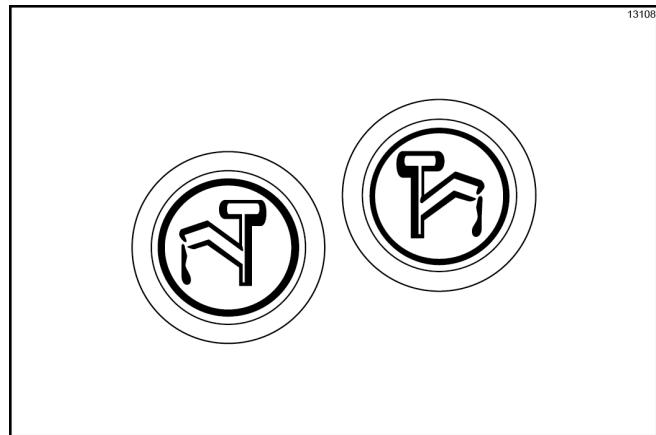

Figure-63
1. Place the topping heaters in the OFF position by pressing the Heater symbols . The symbols will not be illuminated when the heaters are off. (See Figure-63.)